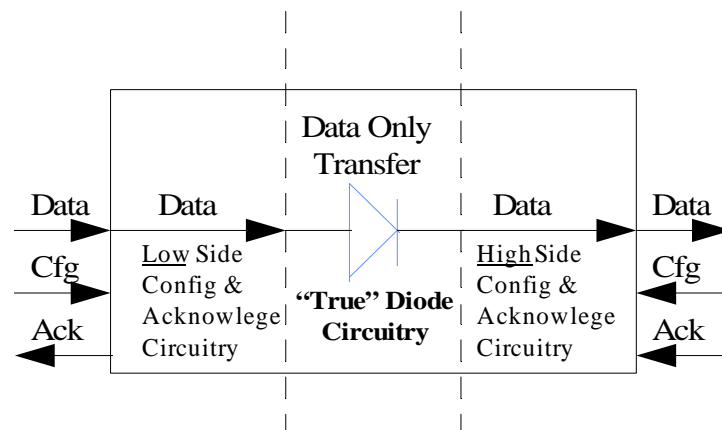

Figure 2 – Overview Of Diode Circuitry
The diagrams above show conceptually the use of the One Way Transfer Diode. In implementation, the One Way transfer Diode has 2 sections of hardware. The receive (Rx), or input, hardware section is shown on left side of Figure 2. The Rx hardware can be programmed, configured, and accepts data for transfer to the fiber diode interface. Once at the fiber diode interface data is transported to the transmit (TX) interface (right side of Figure 2). From the Tx interface data is sent out to host IP addresses previously configured in the Tx interface hardware.